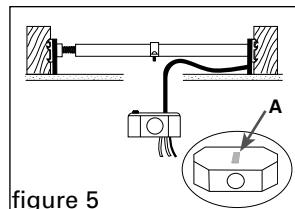
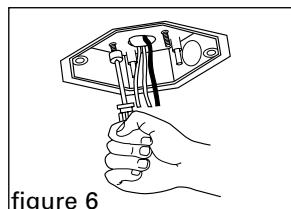

figure 5
figure 6
4. Remove one knockout from electrical box and install connector. Pull the wire down through the hole and into the connector. Insert the electrical box into the hole and onto the bolts of the bracket (figure 5). Make sure the magnet (A) is positioned on the center of the box (refer to inset drawing on figure 5), the magnet (A) will secure the box to the hanger bar while freeing up your hands to finish the installation. Secure the box with the two nylon locknuts provided, **tighten securely** (figure 6). **Do not overtighten.**